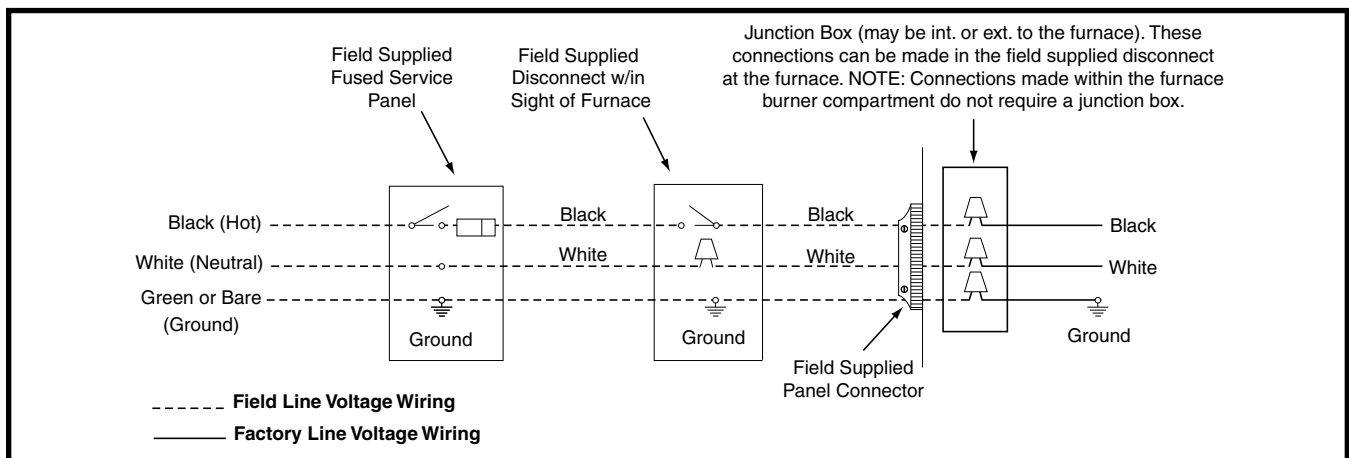
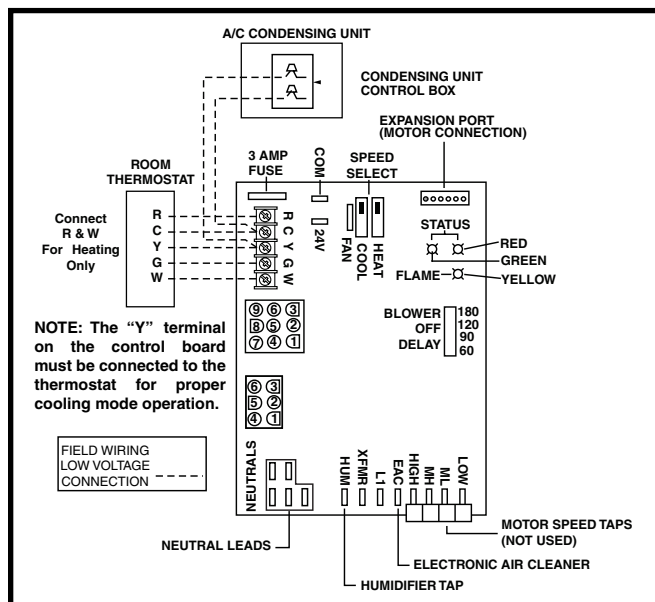

Figure 27. Line Voltage Field Wiring
Figure 28. Low Voltage Field, Four-wire Heating/Cooling Applications
An electrical disconnect must be installed readily accessible from and located within sight of the furnace. See Figure 27 \(page 28\) or the wiring diagram label inside of the control door. Any other wiring methods must be acceptable to authority having jurisdiction.
to the black wire. The furnace will not operate unless the polarity and ground are properly connected as shown in Figure 27.
- The thermostat must be installed according to the instructions supplied by the thermostat manufacturer. Low voltage connections (24 VAC) from the thermostat are wired to the terminal strip on the integrated control in the furnace. Figure 28 contains the proper connections for heating only (two-wire) and heating/cooling (four-wire) applications. Recommended minimum wire gauge for thermostat wiring is shown in Table 5 \(page 28\).
- The six pin terminal marked "Expansion Port" (Figure 28) is not used in the single stage furnace as shipped from the factory. It is used for the furnace control board to communicate to a fixed speed or variable speed high efficiency motor that may be optionally installed. Please contact your distributor for the proper upgrade motor kit.
The operating sequences for the heating, cooling, and fan modes are described below. Refer to the field and furnace wiring diagrams: Figure 27 \(page 28\), Figure 28 \(page 29\) and Figure 33 \(page 39\).